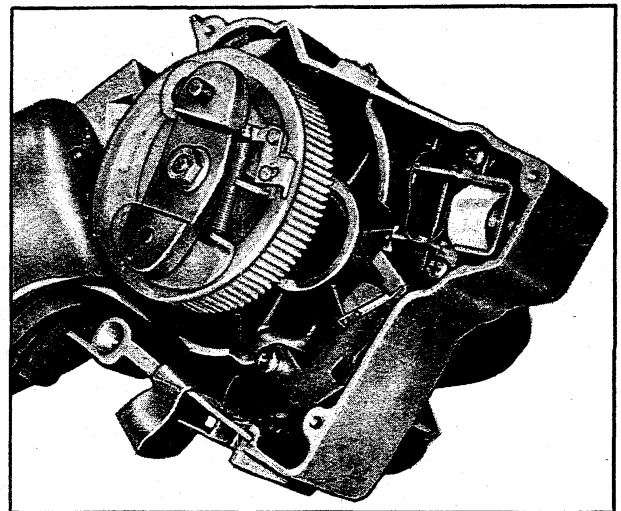

Fig. 101 - Drive Gear Mechanism Installed
5. Reinstall gear mechanism in the housing as shown in Figure 101.